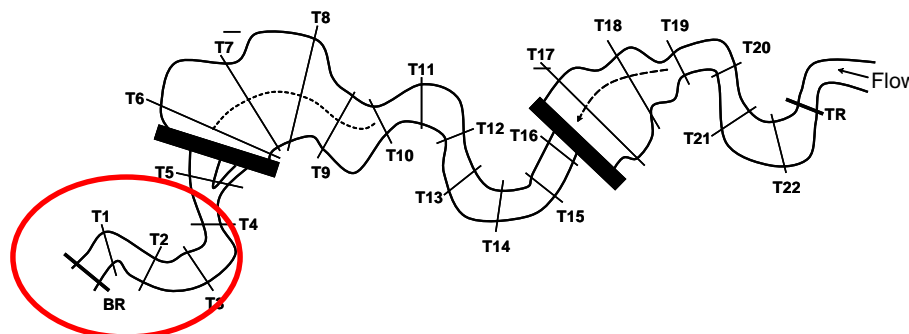

Figure E1: Depiction of reach with beaver dams. Place the probe below the most downstream beaver impacted area within the reach.
- In Figure E1 below, you would ideally place your probe below transect 4 or 5.